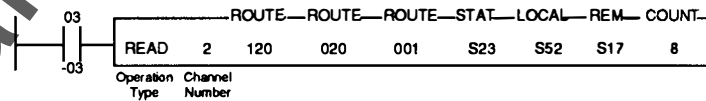

Figure 7-1 - Example READ Instruction.
Communication operations are displayed as horizontal boxes preceded by at least one input condition. See Figure 7-1 for an example. These operations are transitional, meaning that the input condition must experience an open to closed transition before the message is sent.
As shown in Figure 7-1, a route number consists of three digits — the first indicates which of two ports on the NIM (Network Interface Module) the processor or remote CM is connected to, and the last two digits indicate the number of the NIM set by the thumb wheel switches on the NIM module. The first digit can be (1) or (0) (two ports on a NIM) and the last two digits can range from 00-99 (100 possible devices in one network). For the processor to communicate with a remote CM in this example, the routing statements 020, 120 and 001 would have to be contained in the communication rung (in the order shown) of the local processor.
An example of a READ operation is shown in Figure 7-1. READ operations transfer data from a CM to the local processor.
Circuit Operation (Refer to Figure 7-1):
5. The possible number of positions in each line of the contact matrix controlling a READ operation is reduced by the number of statements used inside the READ box. In Figure 7-1, the maximum size the contact matrix could be is 4 x 7 (28 contacts).